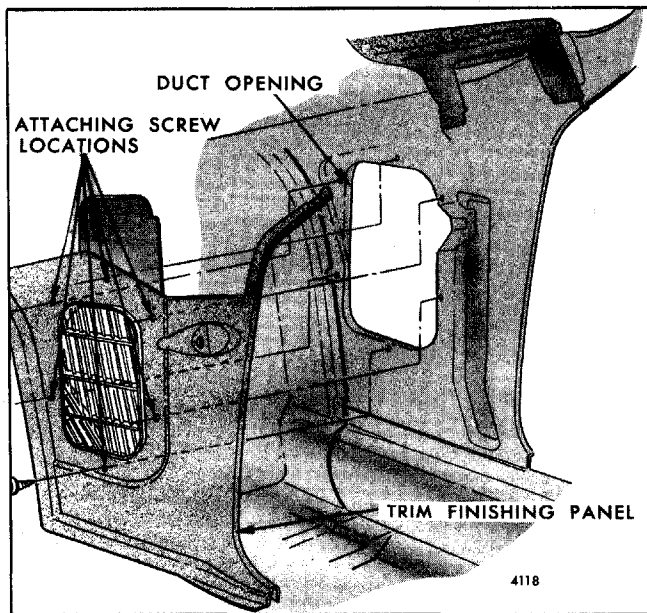

Fig. 4-8-Shroud Side Trim Finishing Panel
1. Duct openings in right and left shroud side panels (Fig. 4-8).